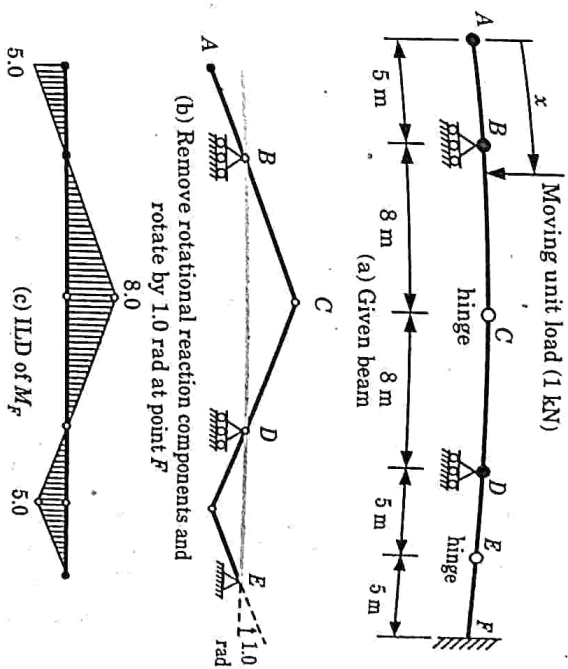

Fig. 33.
- i. To find the influence line for a moment reaction, the process is very similar to that for the vertical reaction forces described above except that the moment restraint at the reaction location is removed (instead of the vertical reaction restraint). This process is illustrated in Fig. 33.
- iii. This results in the displaced structure shows in Fig. 33(b), with rotations in the internal hinges at points C and E, and with the beam being held down at the roller and pin supports at points B, D and F.
- iv. This displaced shape results in the equivalent influence line shown in Fig. 33(c), where the slope of the right side at point F is 1.0. Using this slope we can directly find the value of influence line at point E.